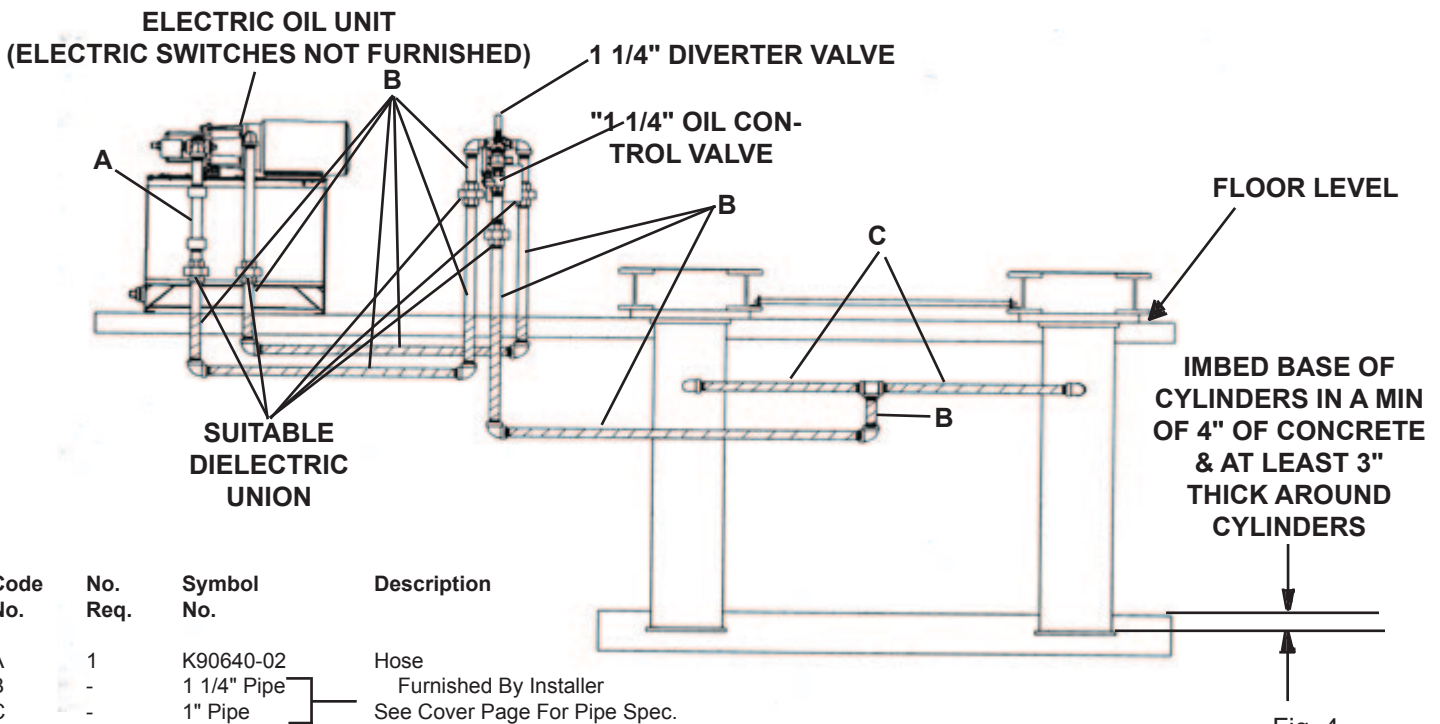

Fig. 4
6. COMPLETE PIPING as shown in Fig. 4. Location of oil reservoir tank is optional. Install wall control valve assembly as shown on page 12.
8. IMBED BASE OF CYLINDERS IN 4" MIN. OF CONCRETE & AT LEAST 3" THICK AROUND CYLINDERS. See figure 4.